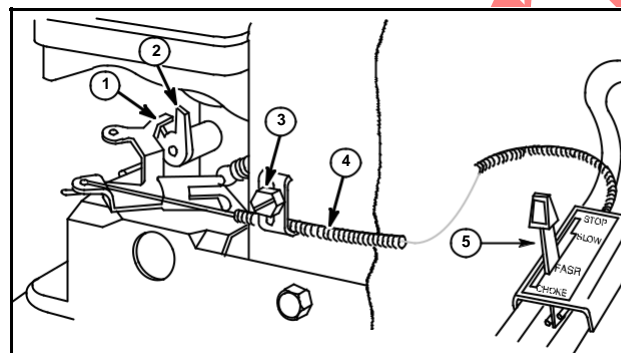

Fig. 55
2. Mount remote control with casing clamp as shown in Fig. 55.
3. Place control lever on equipment in "FAST" (high speed) position (5), Fig. 55.
4. Lever (1) on carburetor should be just touching choke shaft at (2), Fig. 55.
5. Move casing (4) forward or backward until correct position is obtained.
6. Tighten screw (3). Recheck operation of controls after adjustment, Fig. 55.